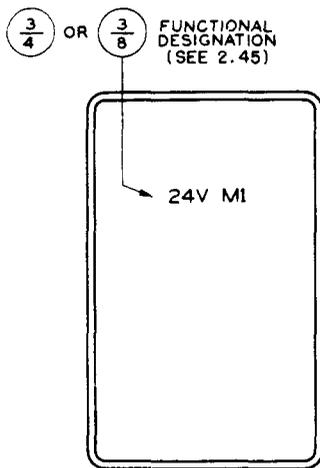

Fig. 36 - Motor Starter
2.25 Designate motor starting compensators as shown for starters in Fig. 36.
2.28 For voltage controllers, see voltage relay and automatic emergency cell switch in Fig. 50. For motor starters, see Fig. 36.
2.45 For motor starters and compensators, see Fig. 36. Large starters such as floor mounted or cabinet type should have 3/4-inch designations; small starters such as rack or wall mounted should have 3/8 inch.
2.51 Designate regulators as shown in Fig. 36 for motor starters.